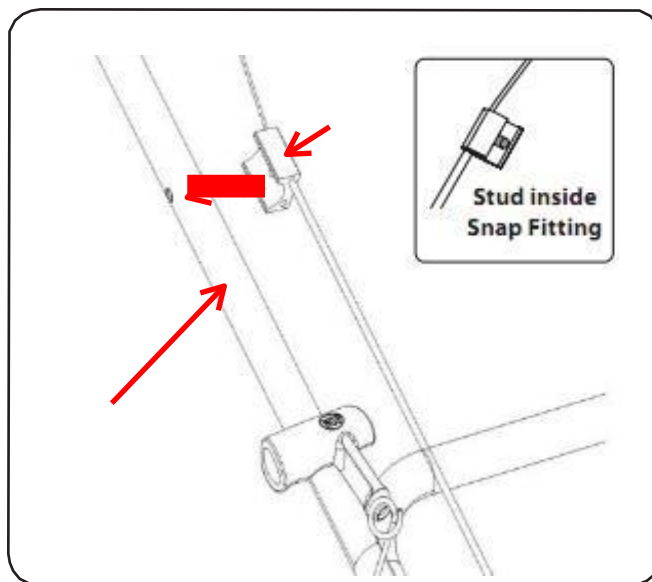

Figure 3-7
**NOTE:** Your mower has been supplied with one of two types of control cables—one that is secured with a snap fitting as shown in Figure 3-7 or one that is secured with a stud as shown in Fig. 3-8. Make note of the cables supplied with your mower and follow the appropriate steps below.
1. Press the stud found inside the snap fitting into the hole found on the left side of the upper handle, as shown in Figure 3-7.